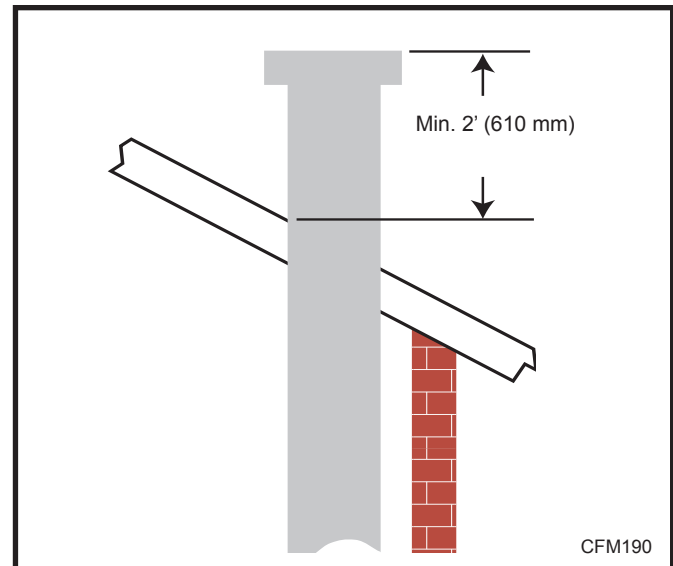

Fig. 39 Minimum termination to roof clearance.
10. Add additional vent lengths for proper height. (Fig. 39)